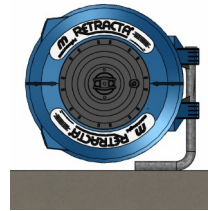

Fig. 3 BB100 - Floor/Bench
C) Use the optional BB100 bracket to install the reel between 1.8mtrs and 4.5mtrs on a wall or on a bench/floor (see figures 3 and 4).